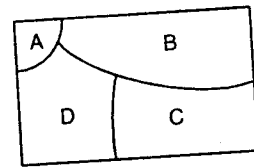

Fig. 26.6
**Example 8.** Evaluate the average uncertainty associated with the probability space of events shown in Fig. 26.6.